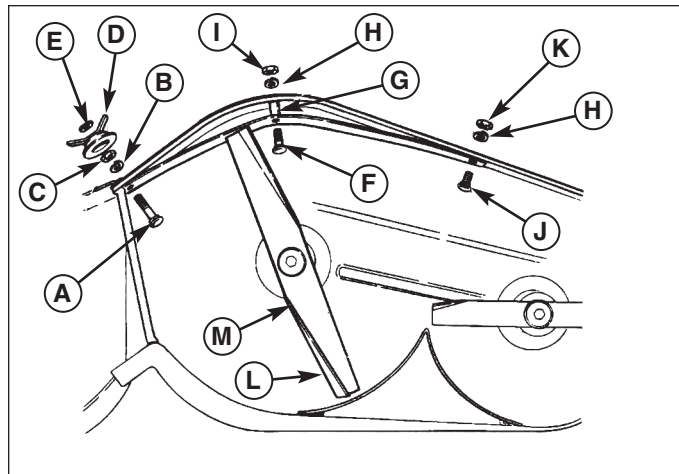

Figure 10. Install Baffle - 34" Models
2. Position baffle with notched end towards discharge side opening, Install all hardware as shown in figure 10. The notch must be positioned to clear the stone guard weldment.